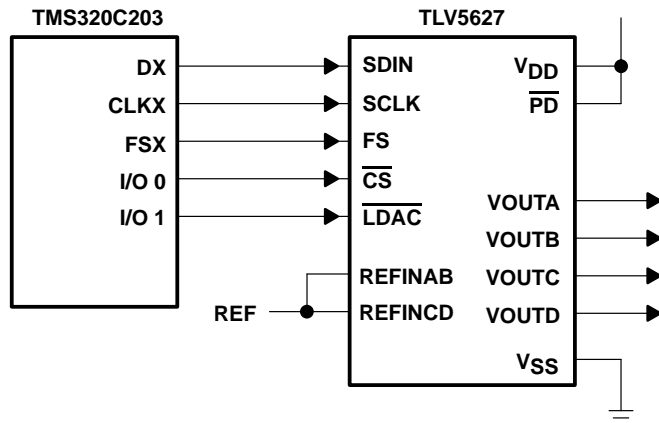

Figure 17. TLV5627 Interfaced with TMS320C203
Figure 17 shows an example of how to connect the TLV5627 to a TMS320C203 DSP. The serial port is configured in burst mode, with FSX generated by the TMS320C203 to provide the frame sync (FS) input to the TLV5627. Data is transmitted on the DX line, with the serial clock input on the CLKX line. The general-purpose input/output port bits IO0 and IO1 are used to generate the chip select ( $\overline{CS}$ ) and DAC latch update ( $\overline{LDAC}$ ) inputs to the TLV5627. The active low power down ( $\overline{PD}$ ) is pulled high all the time to ensure the DACs are enabled.